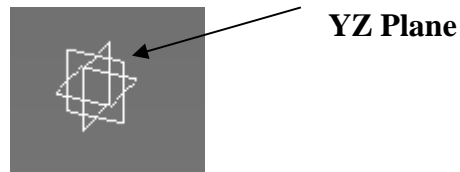

Figure 2.1
- 2.3 Select the **YZ Plane**, shown in Figure 2.1